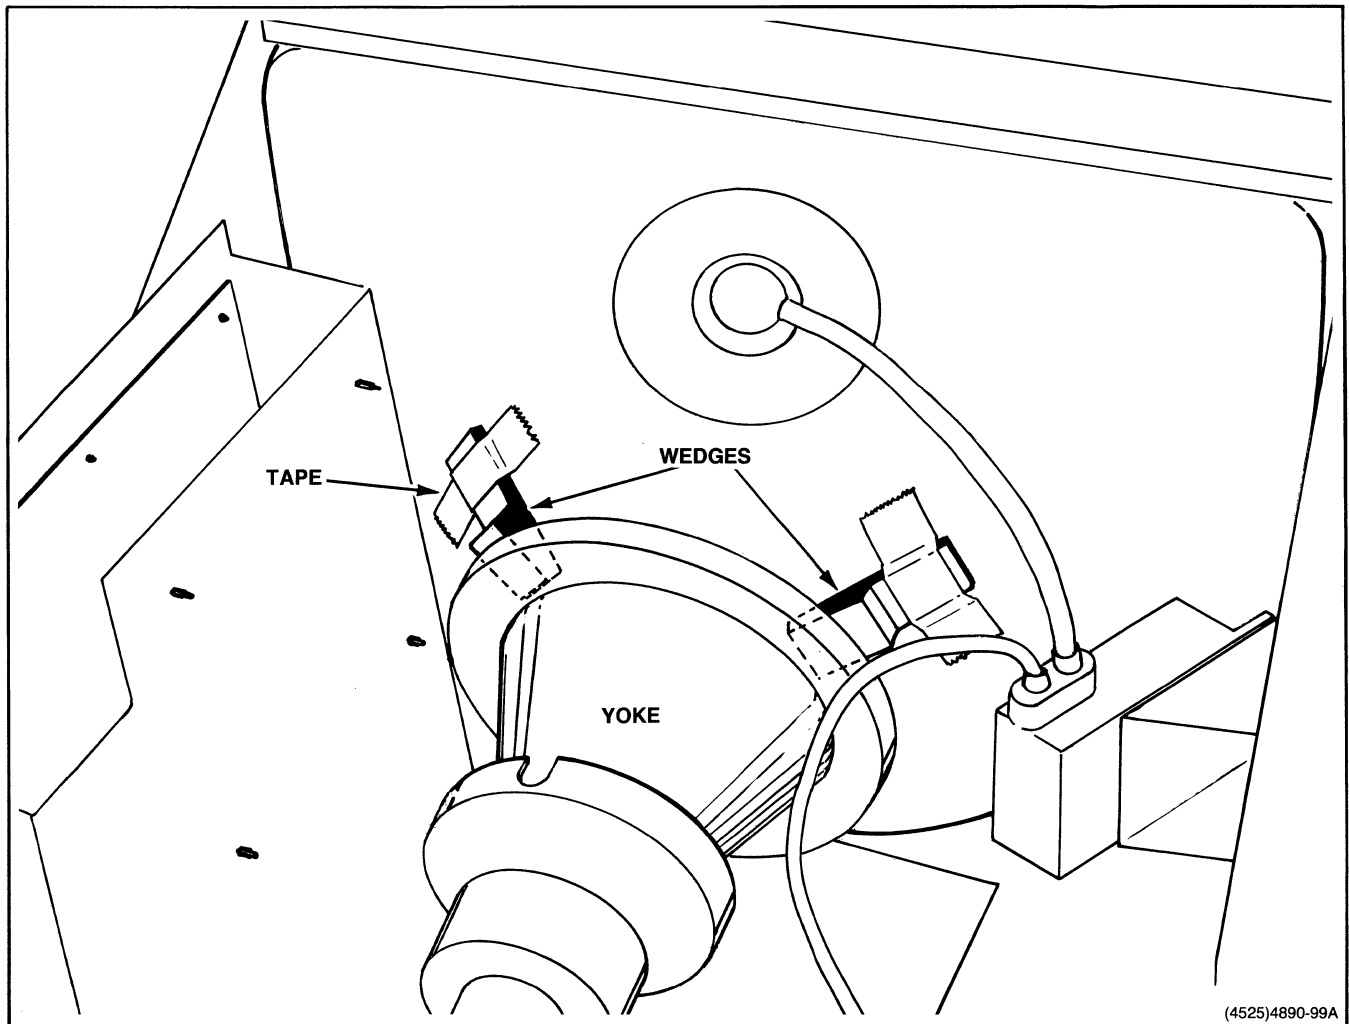

Figure 5-15. Placing Wedges between Yoke and CRT Funnel.
10. Tilting the yoke left-right or up-down affects convergence. Using the top two wedges, position the yoke to achieve the best overall convergence. (See NOTE.) Use RTV silicon compound to secure the wedges in position. Refer to Figure 5-15.
Insert the wedges between the yoke and the crt funnel, with the adhesive side touching the crt. The adhesive will stick to the crt. The wedges are placed 120 degrees apart; two on the top, and one on the bottom. See that the opening of the yoke is equidistant from the crt all around the funnel (refer back to Figure 5-15).